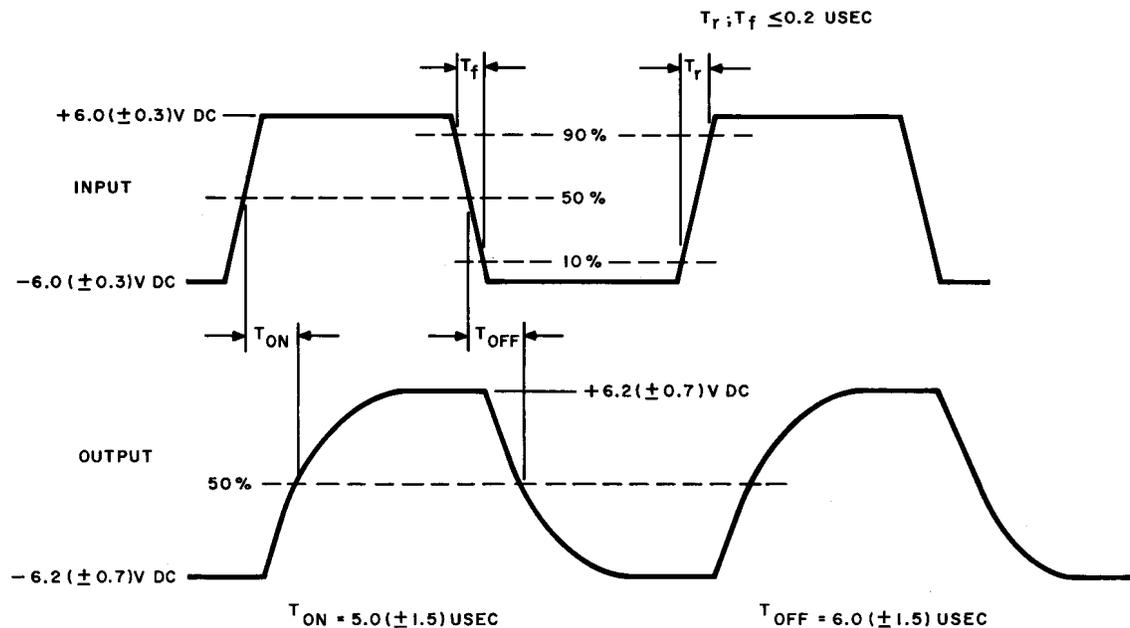

Fig. 59A — MIL. STD 188B Interface Test
(2) Set the frequency of the square-wave generator to about 5000 Hz with a duty cycle of 50 percent.
(3) Set the scope EXT SYNC TRIGGER selector to the (+) positive position.
(4) The input waveform should be as specified in Fig. 59A.
(5) Observe the output of each of the three interface drivers by rotating the switch through positions 1 to 3. At each position the output shall be as specified in Fig. 59A.
(6) Set the scope EXT SYNC TRIGGER selector to the (-) negative position. Rotate the switch through positions 1 and 3. The output waveform at each position shall be as specified in Fig. 59A.